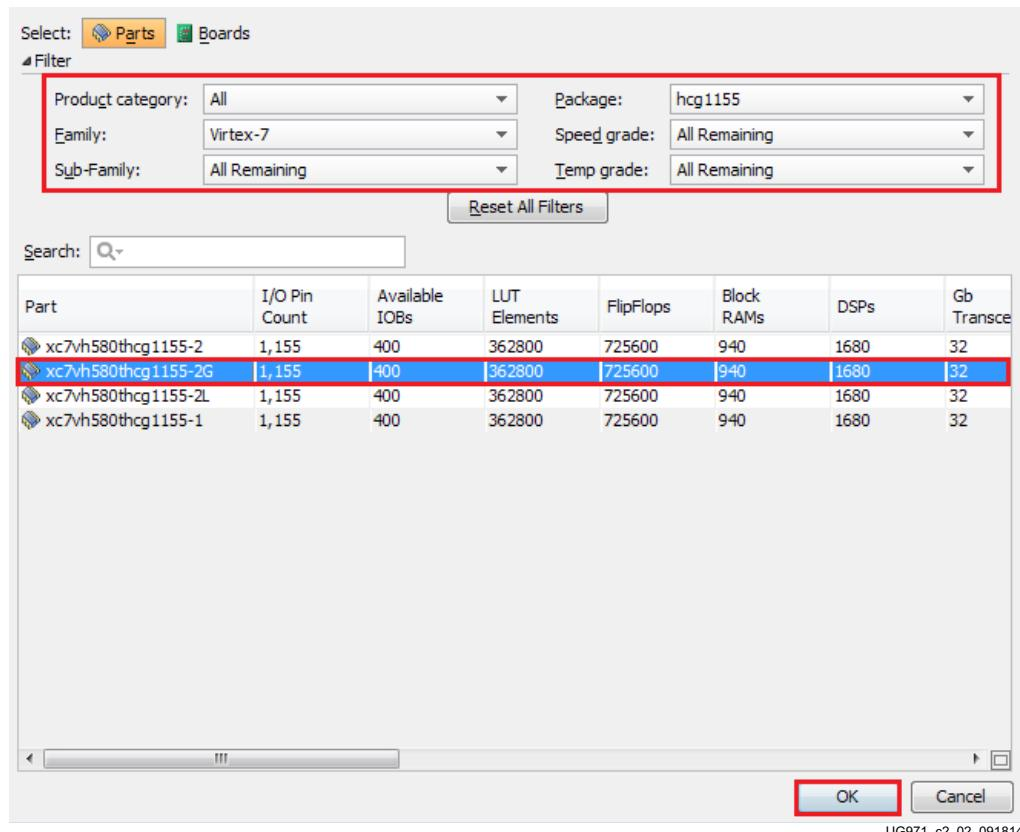

Figure 2-2: Select Device
4. In the Manage IP Settings window, select a part by clicking the (...) button next to the Part field. A Select Device window pops up. Use the drop-down menu items to narrow the choices. Select the **xc7vh580thcg1155-2G** device (Figure 2-2). Click **OK**.